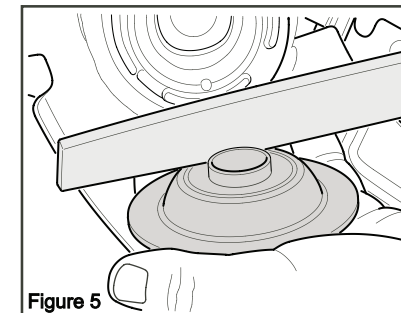

Figure 5
6. Prepare the removed washer for re-installation by lightly filing the pressed washer nose to remove burrs. (Figure 5).